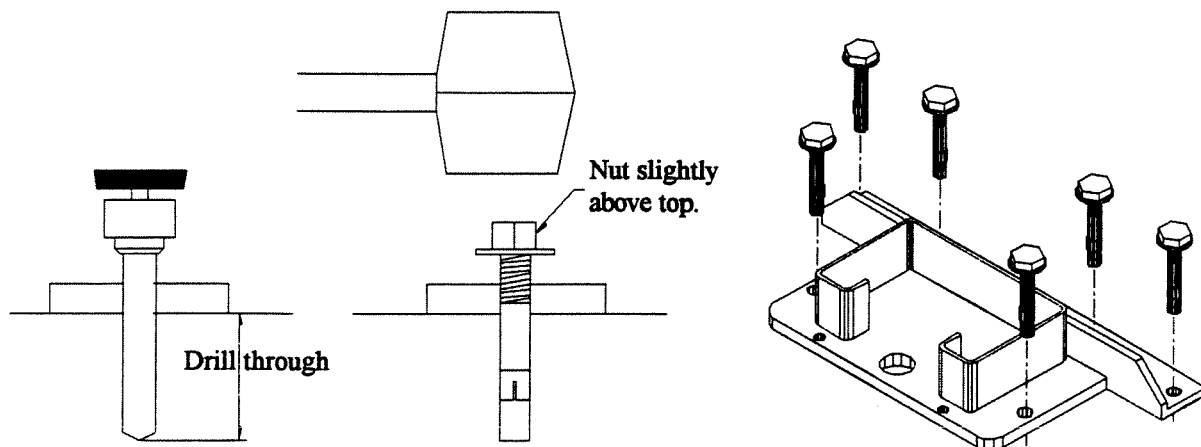

FIGURE 16
10. Assemble the washer and nut onto the anchor bolt. Thread the nut approximately 4/5's of the way onto the anchor bolt where the top of the nut is just above the top of the bolt. Using a hammer on the nut, *carefully* tap the anchor bolt into the concrete. **DO NOT DAMAGE THE NUT OR THREADS.** Figure 16 on previous page.